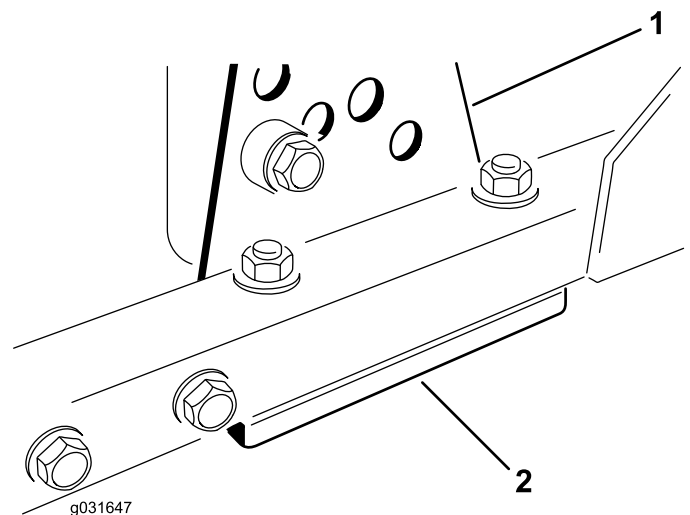

Figure 71
1. Remove the height-of-cut bracket (front, left, or right) from the deck frame (Figure 71).
2. Adjust the 1.5 mm (0.06 inch) shims and/or 0.7 mm (0.03 inch) shim between the deck frame and bracket to achieve the desired height of cut (Figure 71).
3. Install the height-of-cut bracket to the deck frame with the remaining shims assembled below the height-of-cut bracket (Figure 71).